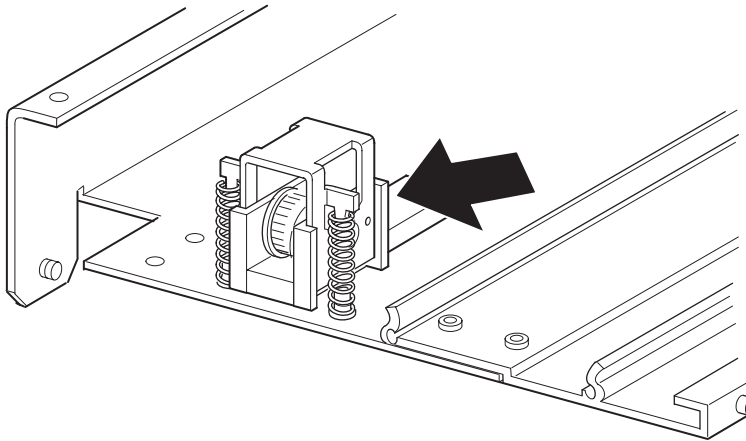

Figure 2-13. Tensioner ramp/idler pulley zero point
2. Insert a 0.050-inch Allen wrench through the holes. This sets the idler pulley to the zero position (see Figure 2-13).